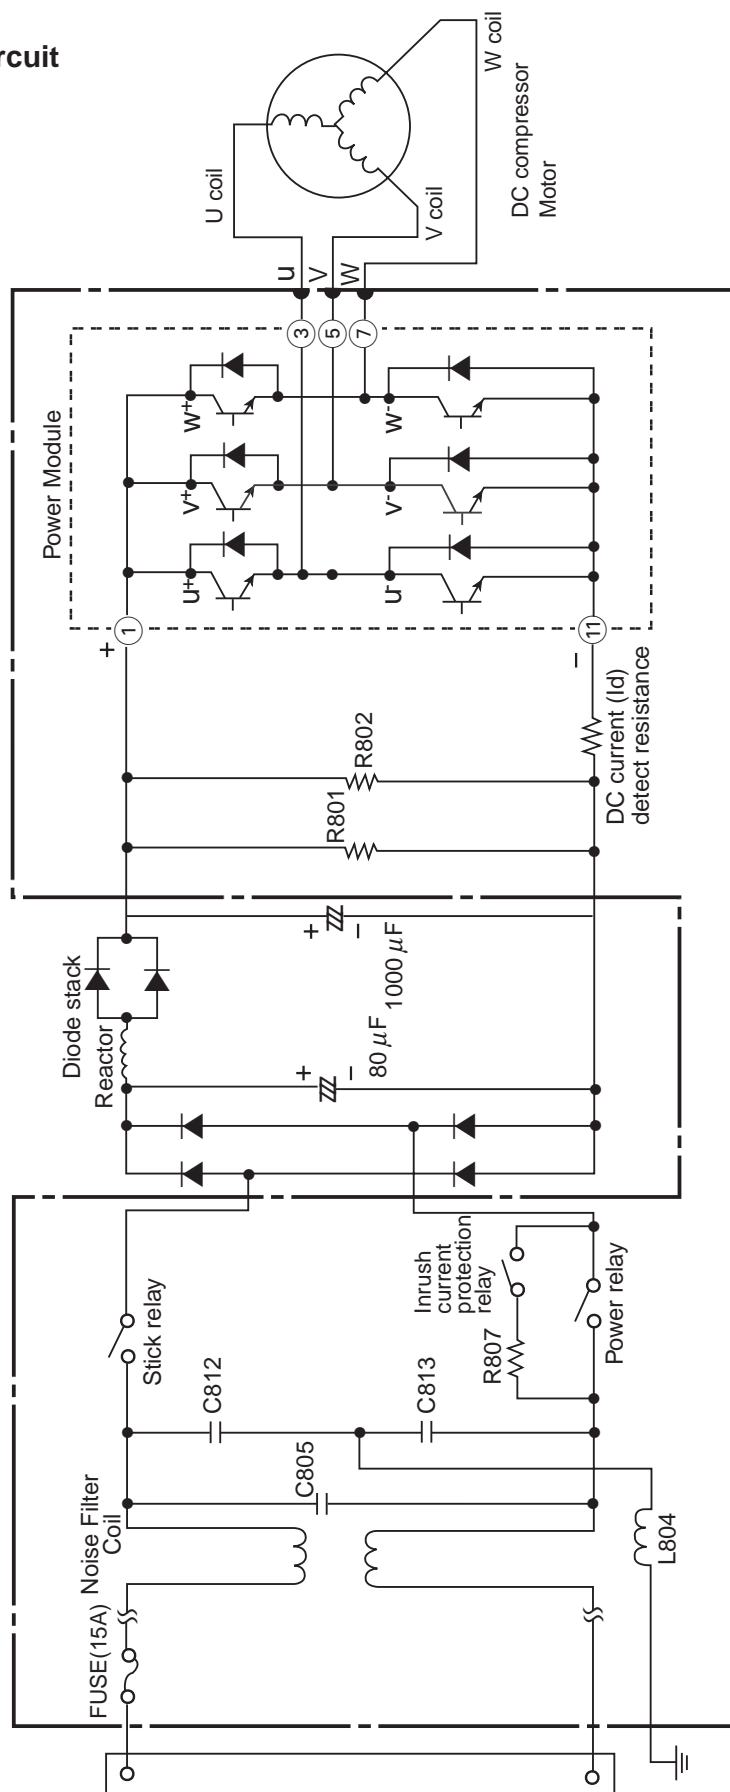
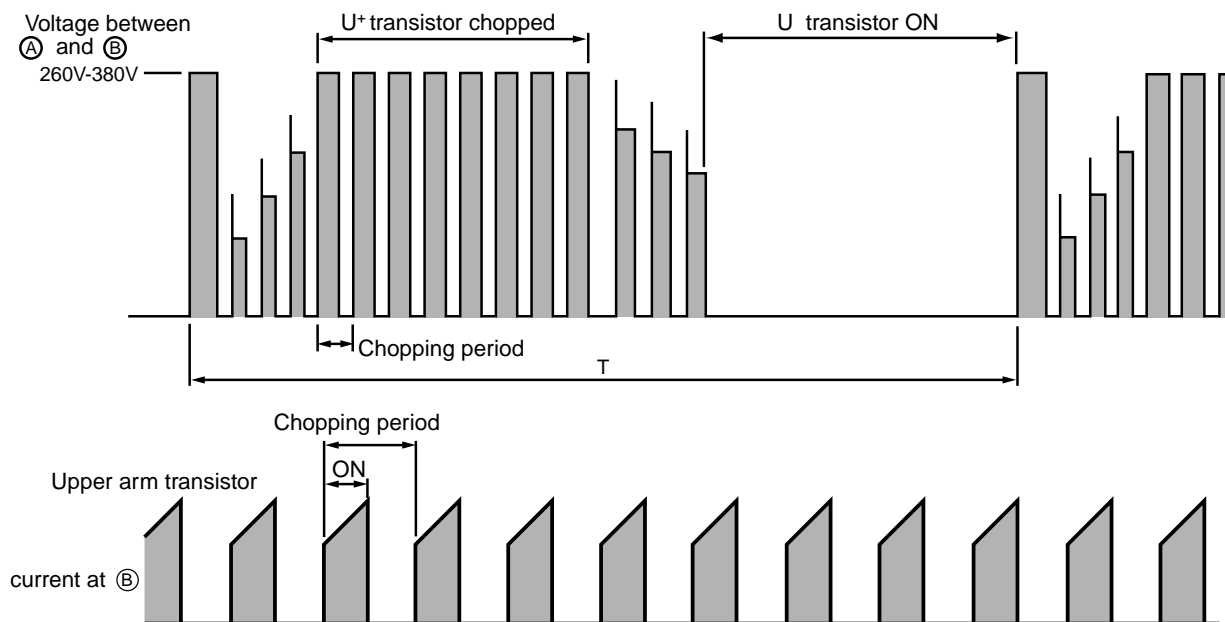

Fig. 3-1 Power module circuit (U⁺ is ON, V is ON)
Fig. 3-3 Voltage waveform at each point
- Fig. 3-1 shows the power module and its peripheral circuits.
- Fig. 3-3 shows voltage waveform at each point shown in Figs. 3-1 and 3-4.
- When power is supplied U⁺ → U⁻, because of that U⁺ is chopped, current flows as shown below; ②
(1) When U⁺ transistor is ON: U⁺ transistor → U coil → V coil → V⁻ transistor → DC current detection resistor → Point ② (Fig. 3-1)
- Since current flows at point (B) only when U⁺ transistor is ON, the current waveform at point (B) becomes intermittent waveform as shown in Fig. 3-3. Since current at point (B) is approximately proportional to the input current of the air conditioner, input current is controlled by using DC current (Id) detection resistor.